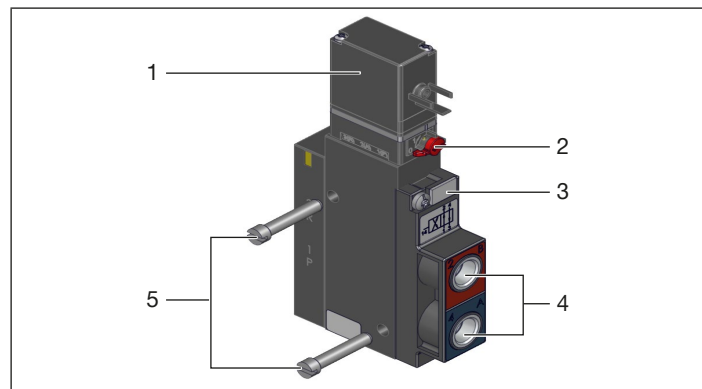

Fig. 8: Fastening single valves
- Fasten single valves directly to the wall with M4 screws (see “Fig. 8”).